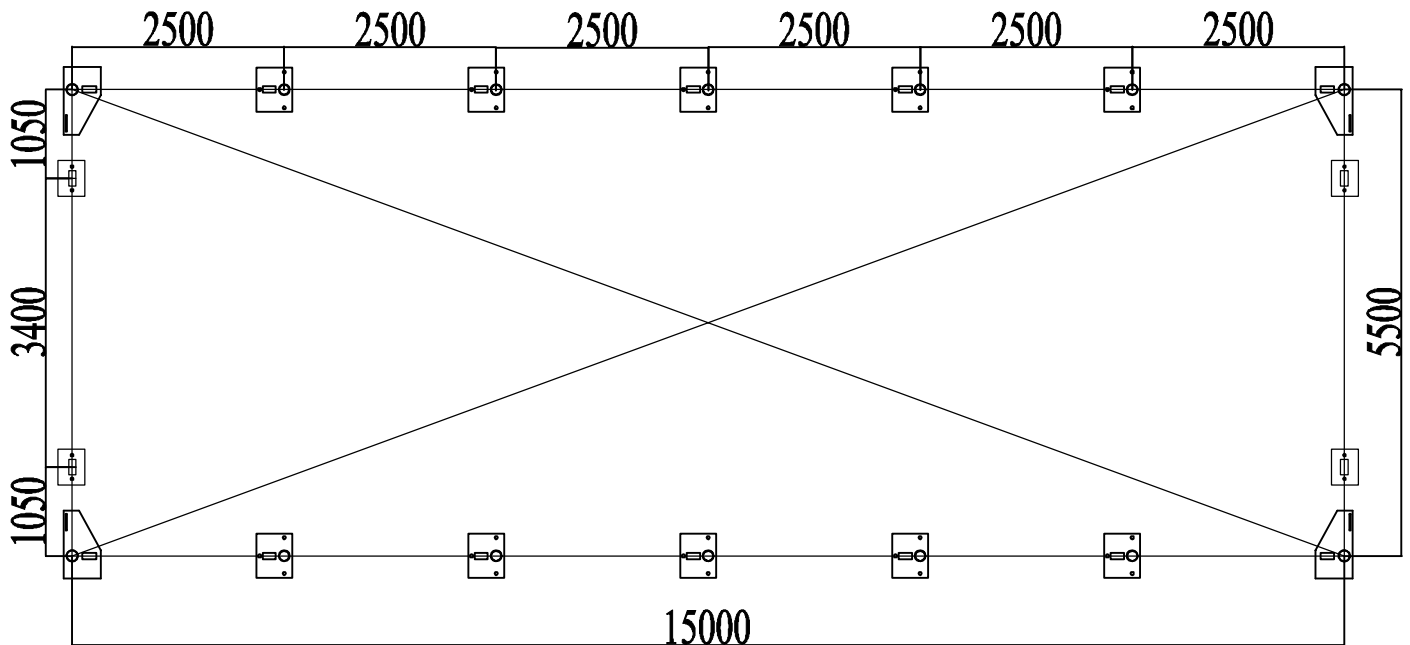

Figure 3 Position of Base Flanges
Begin by determining exact location of the four (4) corners of the building. Mark front edge and side-to-side width of assembly on ground. Drive alignment stakes into the ground outside of the markings, and draw alignment strings along both ends and sides of the building to the dimensions shown in Figure 3. The outline of the strings will represent the final location of the base flanges. The initial location of each Corner Base Flanges (5R & 5L) is critical to the alignment and fit of the frame components and cover.